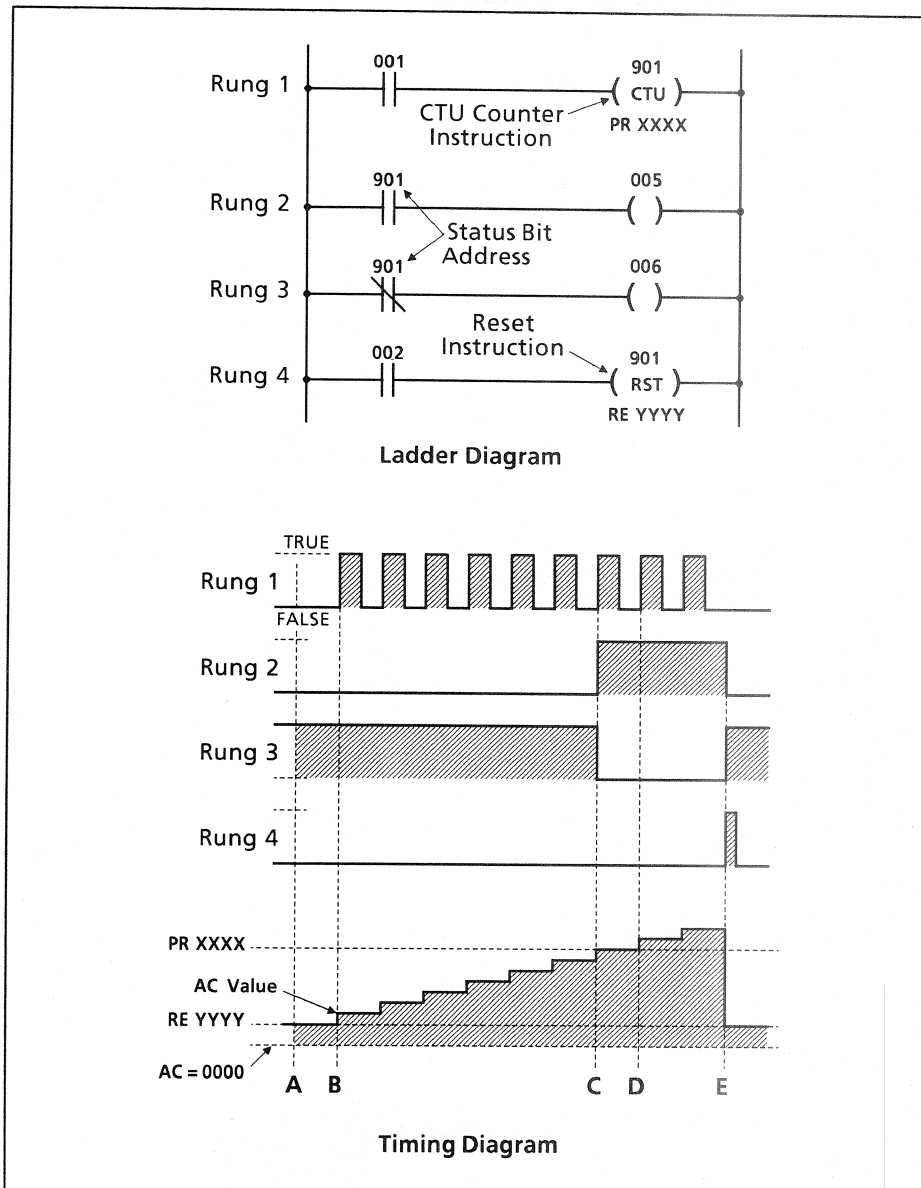

Figure 3.28 The CTU instruction.
3.6.1 Up Counter (CTU) – As pointed out in Figure 3.27, the AC value of the CTU counter increases by one for each FALSE-to-TRUE transition occurring in the CTU counter rung. This is illustrated in Figure 3.28, which shows a CTU counter ladder diagram and the corresponding timing diagram.